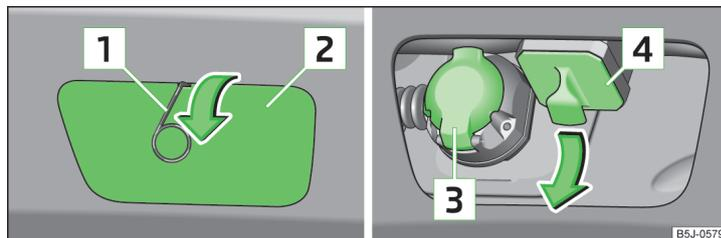
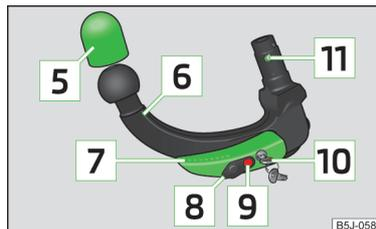

Fig. 123 Remove cover cap: on the rear bumper / for the receiving shaft
Fig. 124
Support for the towing device » Fig. 123 and » Fig. 124
- Remove the cover in the rear bumper **2** » Fig. 123 on page 126 in the direction of the arrow using the tool for removing the wheel trims.
- Pull off the cover for the mounting recess **4** » Fig. 123 on page 126 in the direction of the arrow » **i**.
Store cover **2** and cover **4** » Fig. 123 on page 126 in a suitable place in the luggage compartment after removing them.
- Fit the cover for the mounting recess **4** » Fig. 123 on page 126 in the opposite direction to the arrow.
- Offer up the cap to the rear bumper **2** » Fig. 123 on page 126 aligning it with "check mark" in the lower bumper area.